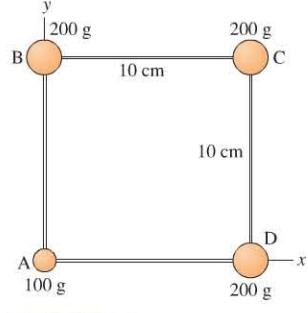

FIGURE P7.54
54. ||| The four masses shown in Figure P7.54 are connected by massless, rigid rods.